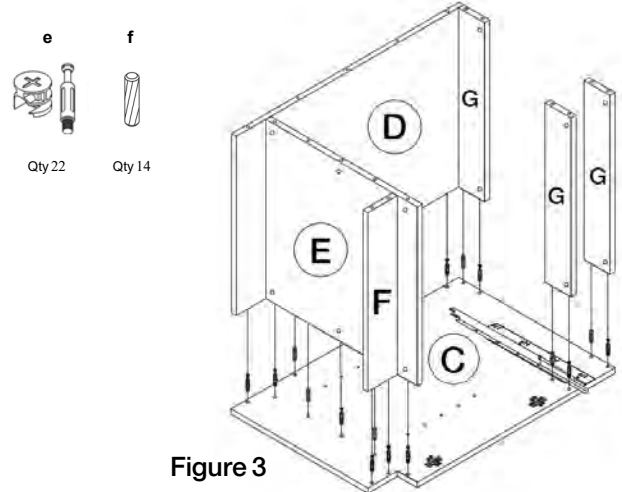

Figure 3
3. Install metal male cam locks (e) into designated holes on side panel (C) and bottom panel (E). Use screwdriver to tighten. Install the wooden dowels (f) into designated holes. (Figure 3)
4. Install the toe kick (F) onto bottom panel (E). (Figure 3)
5. Install braces (G) & back panel (D) onto the right side panel (C). (Figure 3)